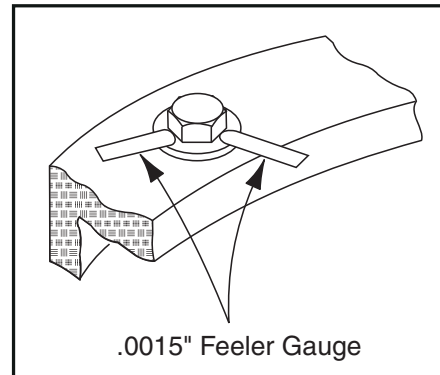

Figure 3-43. Swing Bearing Bolt Feeler Gauge Check
- b. At the positions indicated on Figure 3-43. try and insert the 0.0015" feeler gauge between the bolt head and hardened washer at the arrow indicated position.
- d. At the position indicated on Figure 3-43. try and insert the 0.0015" feeler gauge between the bolt